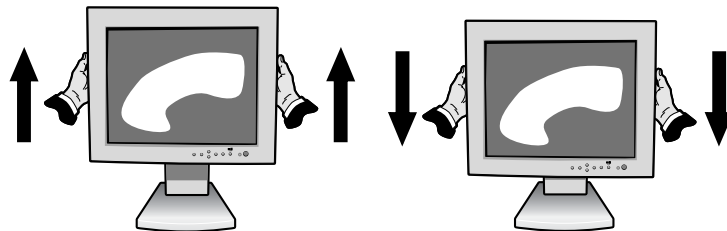

Figure RL.1
The monitor may be raised or lowered in either Portrait or Landscape mode. To raise or lower screen, place hands on each side of the monitor and lift or lower to the desired height (**Figure RL.1**).
Before rotating, the screen must be raised to the highest level to avoid knocking the screen on the desk or pinching your fingers. To raise the screen, place hands on each side of the monitor and lift up to the highest position (**Figure RL.1**).
2. Place hands on each side of the monitor and lift up to the highest position (**Figure RL.1**).